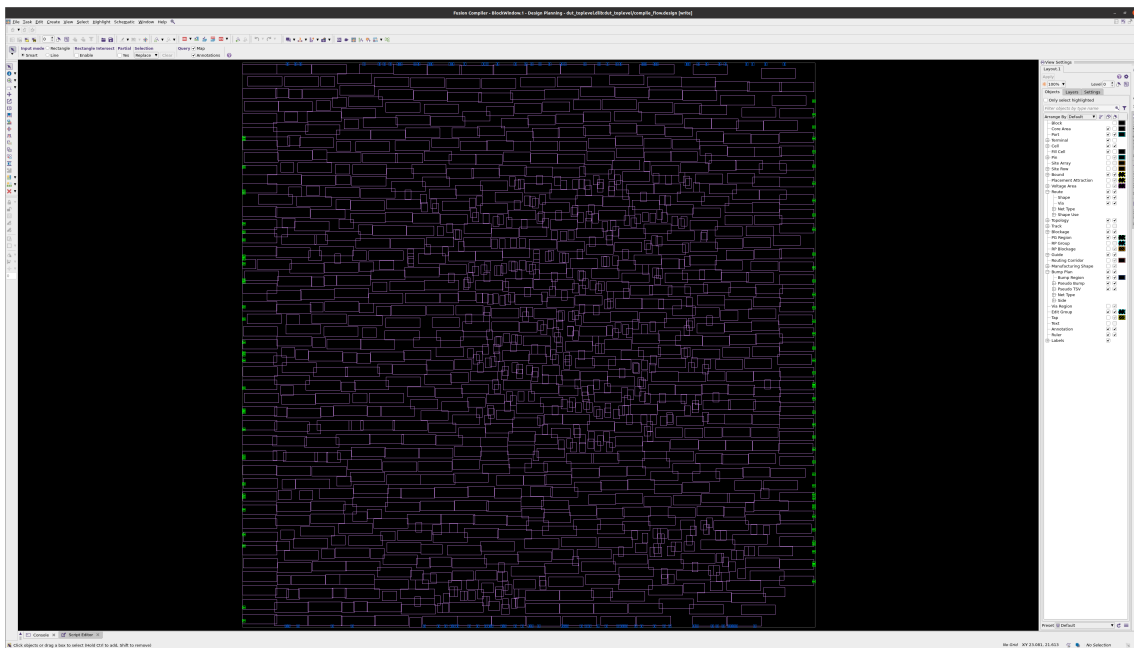

Figure 2.1: Layout after `logic_opto`.
2. `logic_opto` creates rectangular chip area and roughly places cells. Many are overlapping and there are no clear rows. (Fig. 2.1)